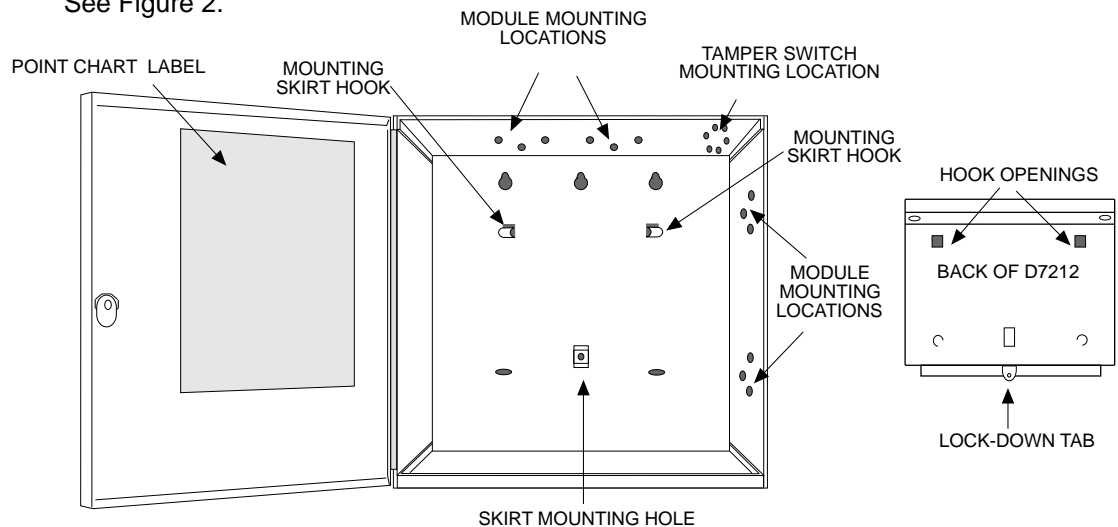

Figure 2: Mounting Enclosure
Mount the enclosure in the desired location. Be certain to use all five mounting holes. See Figure 2.
1. Place the D7212 assembly over the inside back of the enclosure, aligning the large rectangular openings of the mounting skirt with the mounting hooks of the enclosure. Slide the D7212 down so it hangs on the hooks. See Figure 2.
Use the program record sheet to gather the information you need to fill out the point chart. Install the label on the enclosure door as shown in figure 2. To avoid smearing your entries on the chart, use the label's peel off backing to press the label in place.